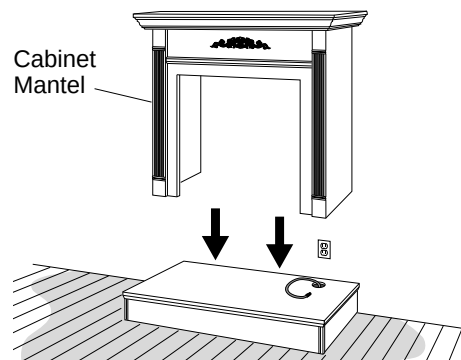

Figure 13 - Installing Cabinet Mantel
2. If using an optional GA3750 blower, install a properly grounded, 120 volt three-prong electrical outlet at firebox location if an outlet is not there. If possible, locate outlet so cabinet mantel will cover it when installed (see Figure 13).
6. Center cabinet mantel on hearth base (see Figure 13). Make sure mantel is flush against wall.